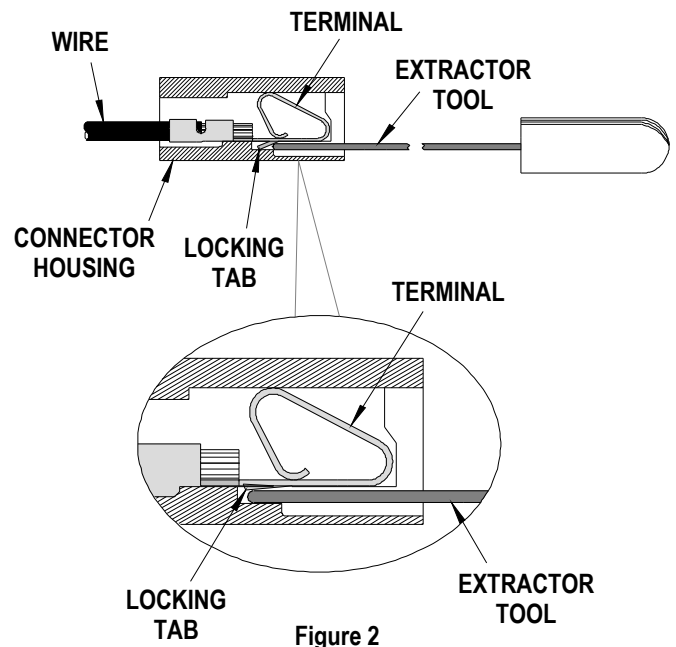

Figure 2
3. On housings without exposed locking tab windows, insert as shown in Figure 2 to depress locking tab and pull wire out.
If the terminal does not extract, reinsert the Extractor Tool as shown in Figure 2 and slightly rotate clockwise (CW) and counter-clockwise (CCW) several times to depress the locking tab. Pull on the wire to extract the terminal.